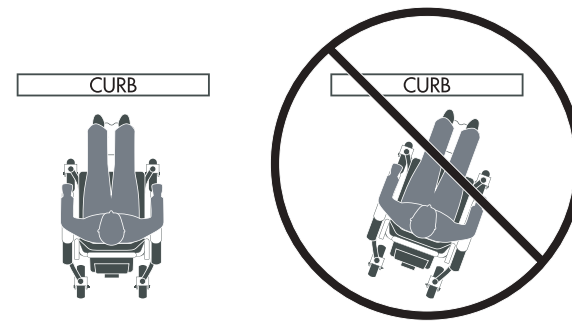

Figure 5. Moving straight up or down a curb cut.
- Go as straight up or down as you can over the obstacle. (See Fig. 5).